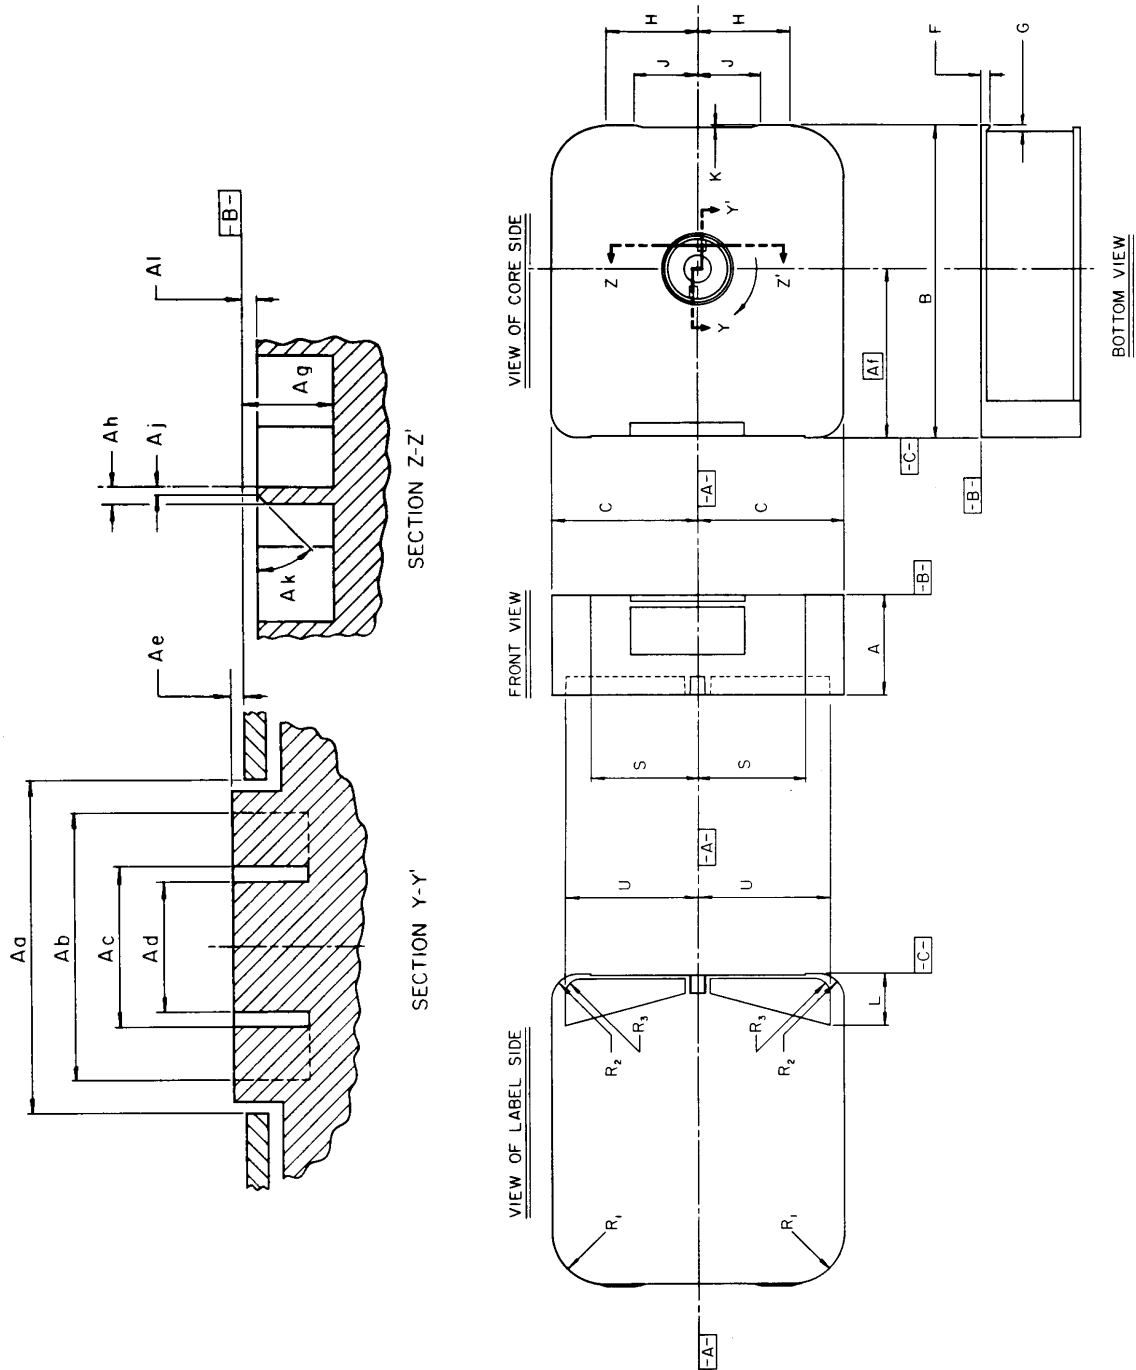

Figure 1 – Cartridge
3.1 The dimensions shall be as given in figure 1 and table 1.
3.5 Dimensions L, M, N, R₃, U, V, and W, measured from datum planes A and C to the depth of dimension E, as shown in the view of the label side in figure 1, describe the extent of both triangular recessed areas. The inboard wall of the recessed area, defined by dimensions L and N, shall be a smooth surface and may be tilted sufficiently from the perpendicular to datum plane B to allow proper release from a mold, when the cartridge is manufactured in a molding process.